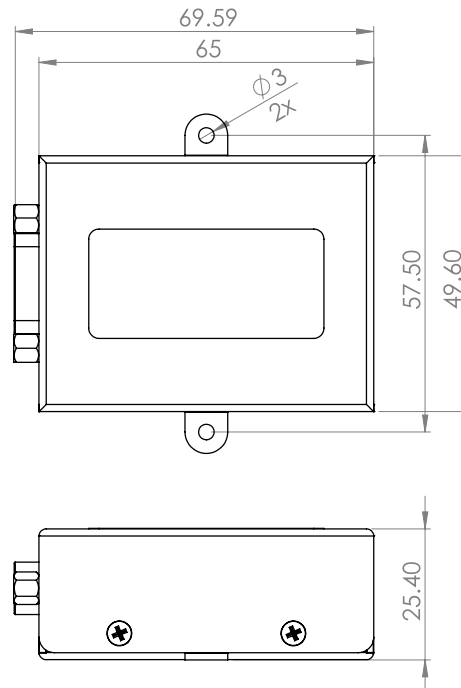
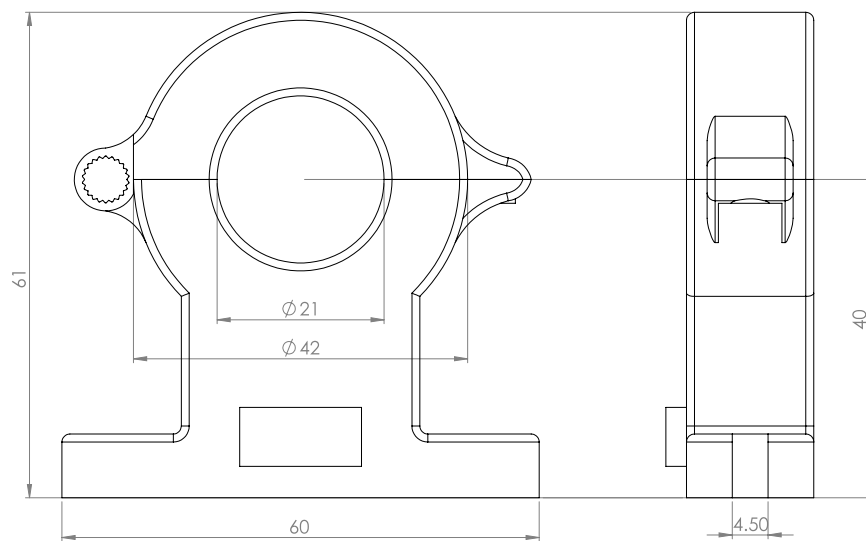

Figure 1: MOP2 dimensions
Figure 2: Hall current sensor dimensions
- Install MOP2 and Hall current sensor close to the positive lead of battery of the E-motor (refer to Figure 1 and Figure 2 for detailed dimensions)